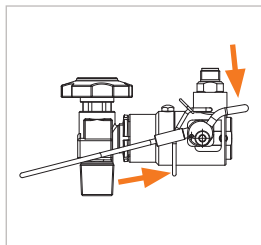

Figure 14
- ▶ Fold the actuation bail (Pos. 6) downwards and pull at the locking device (Pos. 8) at the same time (*Figure 14*). The flexible wire rope will fold upwards and the clamping jaws will open.